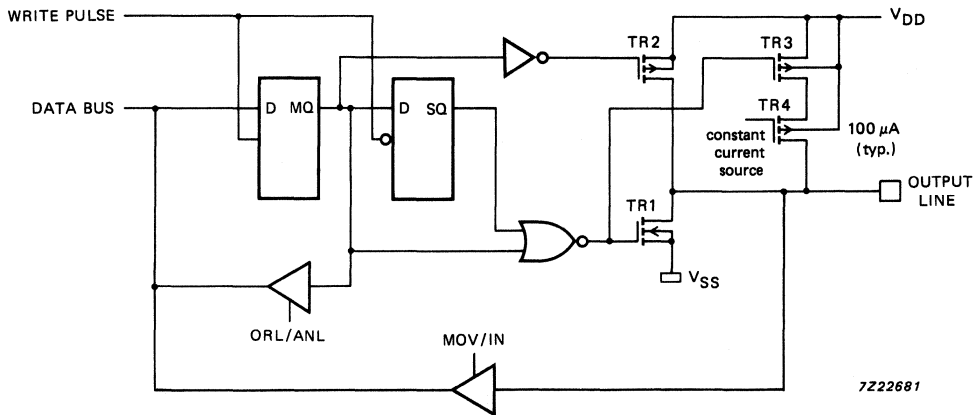

Fig. 13 Push-pull output.
3. PUSH-PULL OUTPUT: the outputs can sink or source $1,6 \text{ mA}$ (min.) at $V_{DD} = 5 \text{ V}$. These pins may not be used as inputs (Fig. 13). The contents of the port latch may be read using the IN A,pp instruction.